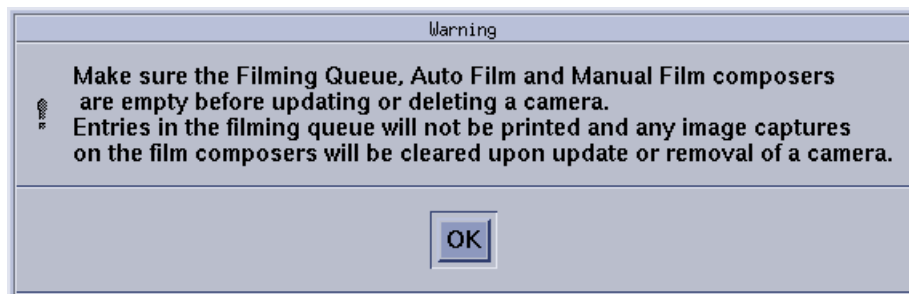
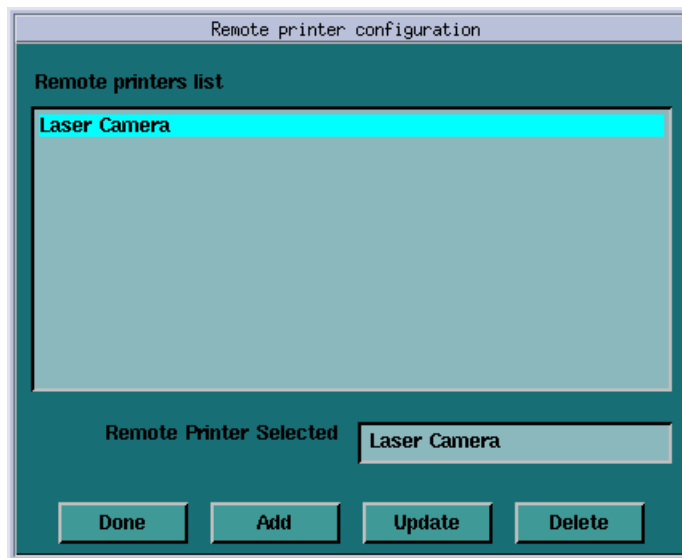

Figure 7-9 Warning Screen
Figure 7-10 Printer Configuration GUI
- 3.) The Graphical User Interface displayed shows a list of cameras installed (See Figure 7-10). First, you must click OK in the warning message box. See Figure 7-9.
- a.) To add a new camera, click the ADD button (See Figure 7-10).